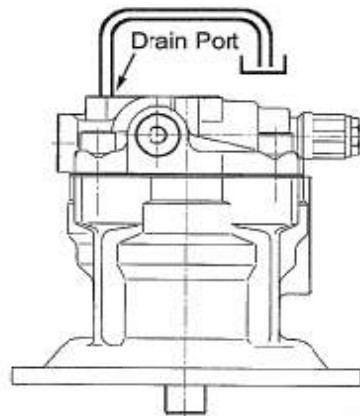

Fig.7 The draining position
- 4) Fill always the casing inside with oil. Determine the draining position the motor so that the casing inside will be filled with oil as shown in Fig.7.